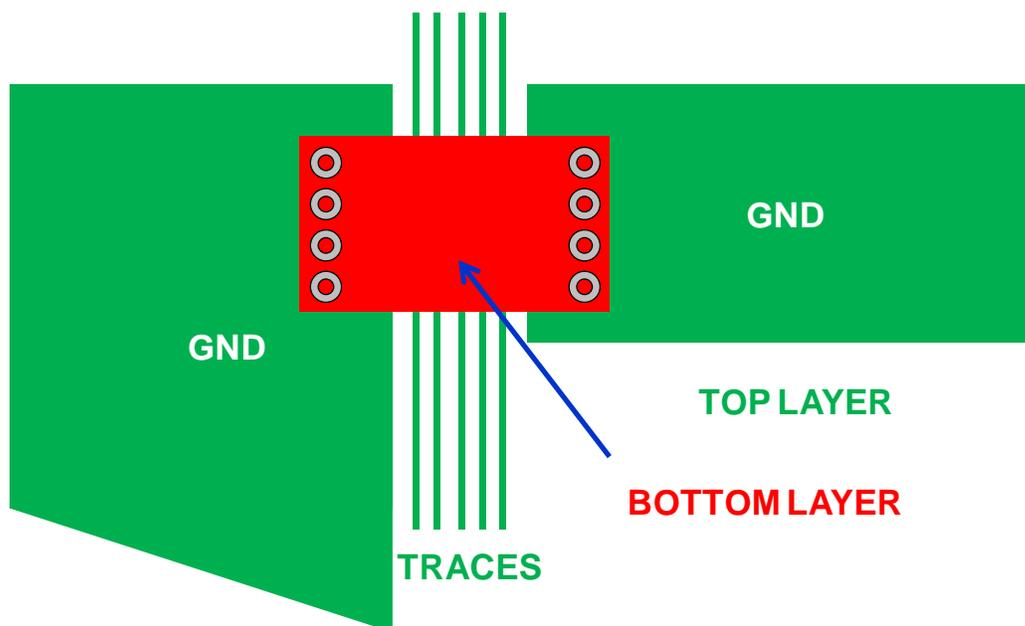

Figure 16: “Stitching” of Copper Structures
- “Stitch” gaps in the GND structures to GND bridges on the other PCB side, as shown in Figure 16.